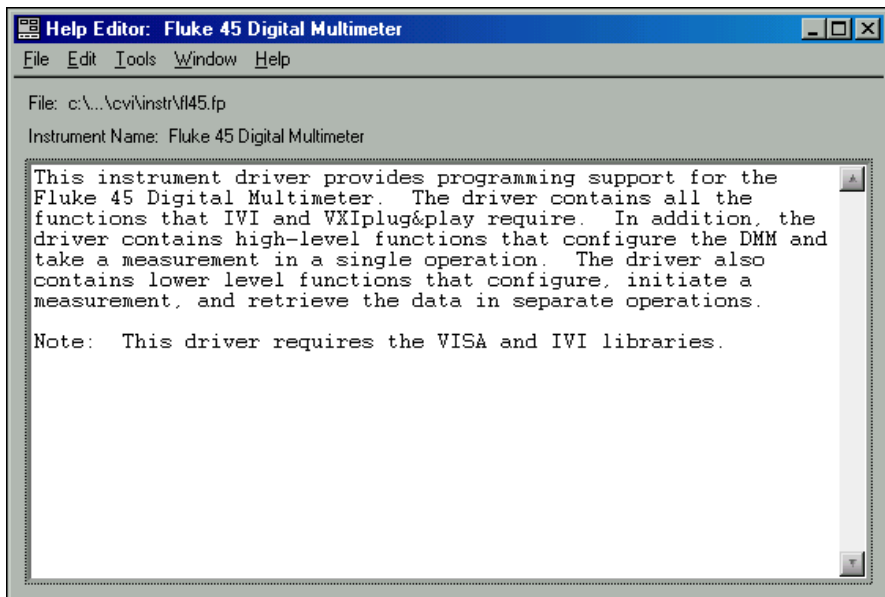

Figure 3-4. Fluke 45 Instrument Help
- Instrument driver help describes the instrument driver. Figure 3-4 shows instrument help for the Fluke 45 instrument driver.